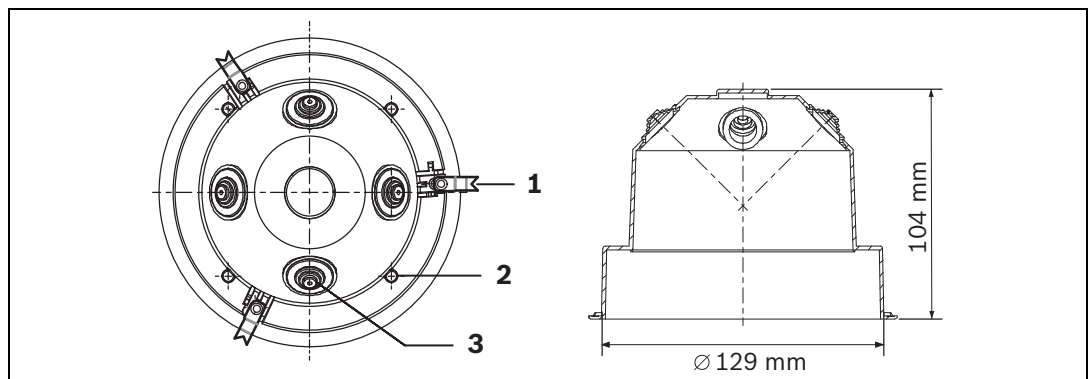

Figure 3.2 Plan view and side view of the ceiling mount back box FAA-500-BB
2. Pull the cable through one of the cable bushings (see *Figure 3.2 (3)*). A cable tie around the cable sheath will secure the cable against being pulled out accidentally.
5. Tighten the brackets (see *Figure 3.2 (1)*).